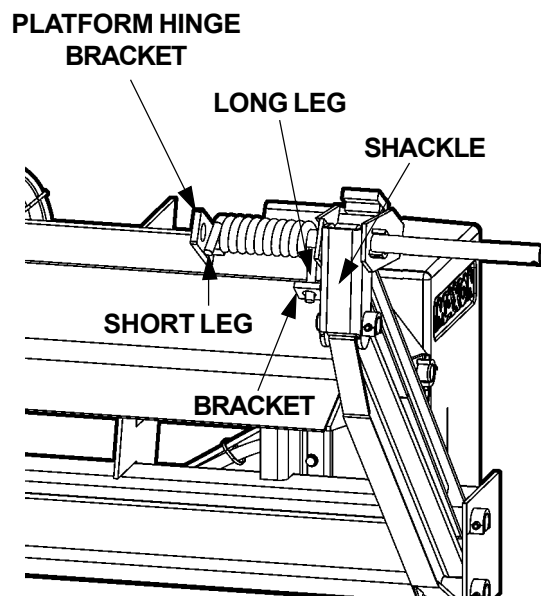

FIG. 14-2
4. Install the Torsion Spring as shown in (FIG. 14-2). Make sure the long leg of the spring is inserted in the bracket located on the Shackle. Make sure the short end of the spring is visible, as shown FIG. 14-2.